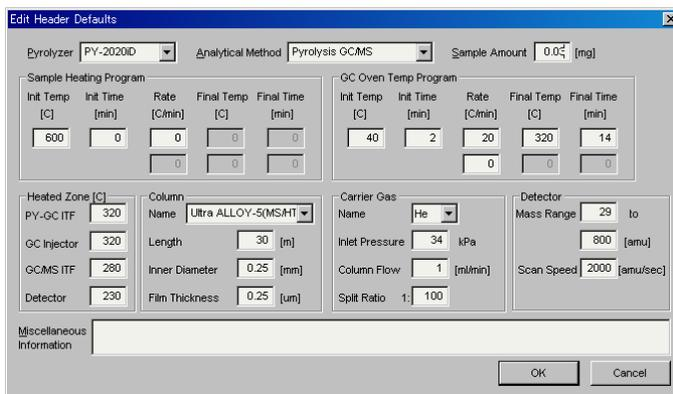

Fig. 5-36 Entering analytical conditions for Py-GC/MS analysis
- (3) Clicking [Edit Default...] allows you to edit the analytical conditions as shown in Fig. 5-36. After entering the temperature settings (for pyrolyzer, GC, and interface), type of